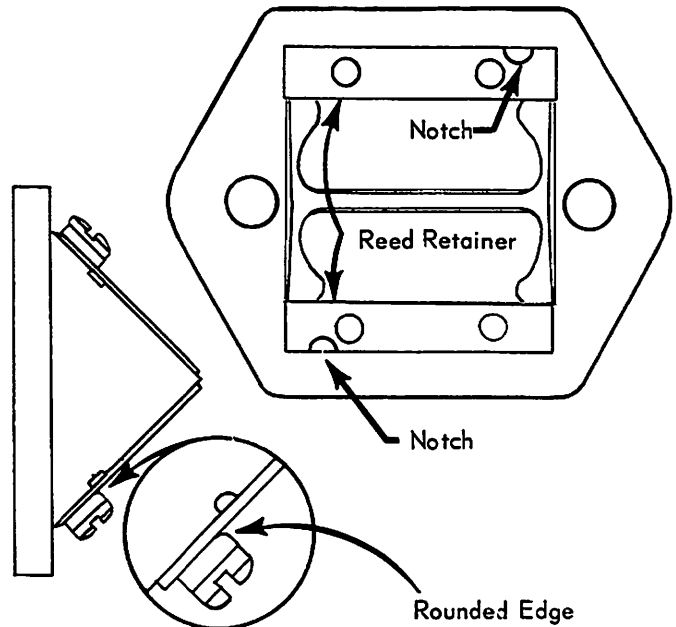

Figure 1. Reeds Centered and Square with Reed Block
6. Refer to Figure 1 for proper assembly of reeds and reed block. When assembling reeds to reed block, care must be taken so that reeds are centered and square with reed block.
- a. Reeds have an identification notch. Install reed with notch positioned as shown in Figure 1. Install reed retainer with rounded edge toward reed to prevent reed breakage.
- b. Late Merc 39 engines have both the reed and reed retainer notched for identification. Install reeds and reed retainers with notch positioned as shown in Figure 1.